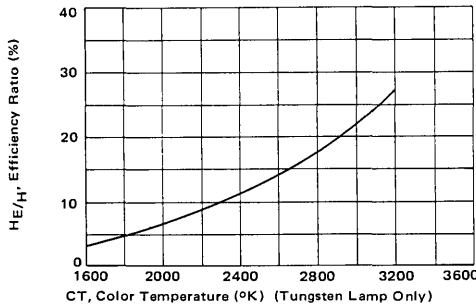

FIGURE 18 – MRD Irradiance Ratio versus Color Temperature
Graphical integration of equations (2b) and (26) has been performed for the MRD series of phototransistors for several values of lamp color temperature. The results are given in Figures 18 and 19 in terms of ratios. Figure 18 provides the irradiance ratio, H_E/H' versus color temperature. As the curve shows, a tungsten lamp operating at 2600°K is about 14% effective on the MRD series devices. That is, if the broadband irradiance of such a lamp is measured at the detector and found to be 20 mW/cm^2 , the transistor will effectively see
However, from Figure 18, the effective irradiance is